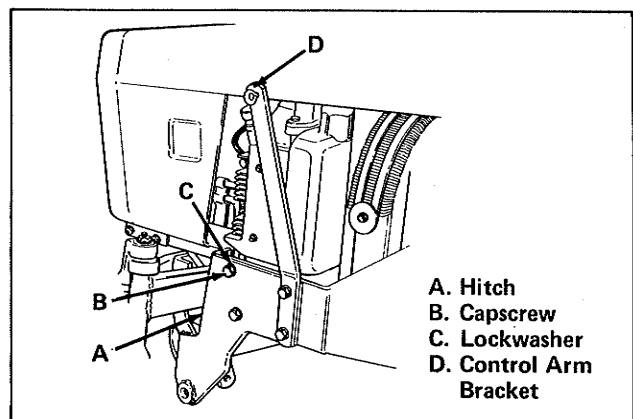
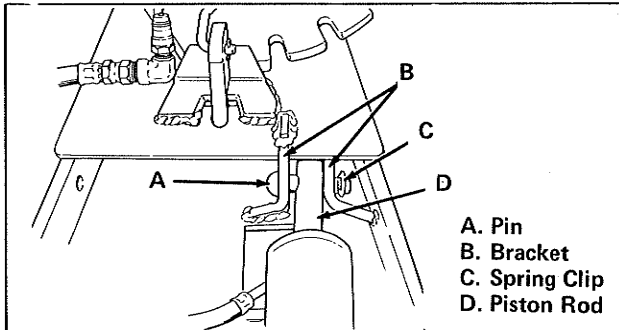

Figure 3. Install Hitch and Control Arm Bracket
Figure 4. Attach Hydraulic Cylinder
1. Install hitch for front-mounted attachments (item A, figure 3) on tractor. Use eight cap screws (item B) and lockwashers (item C) to secure the hitch and the control arm bracket (item D) provided with the snow plow/dozer blade.
2. Attach piston rod (item D, figure 4) of hydraulic cylinder to bracket (item B) using a pin (item A) and spring clip (item C).
6. If desired, detach piston rod (item D, figure 4) from push bar and remove hitch (item A, figure 3) and control arm bracket (item D) from tractor.